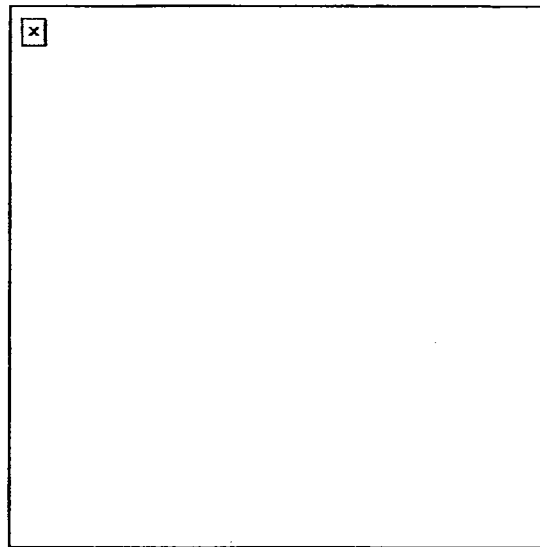

Figure 2
3. Operate the device under normal conditions (Figure 2).
**NOTE:** If the equipment fails to operate, refer to the troubleshooting procedures in Technical Manual (TM) 11-5855-213-10.
- e. Turn the diopter focus ring (Figure 2) to obtain the clearest image of the reticle pattern.
- f. Turn the objective focus ring (Figure 2) until the target in the field of view is sharply defined.